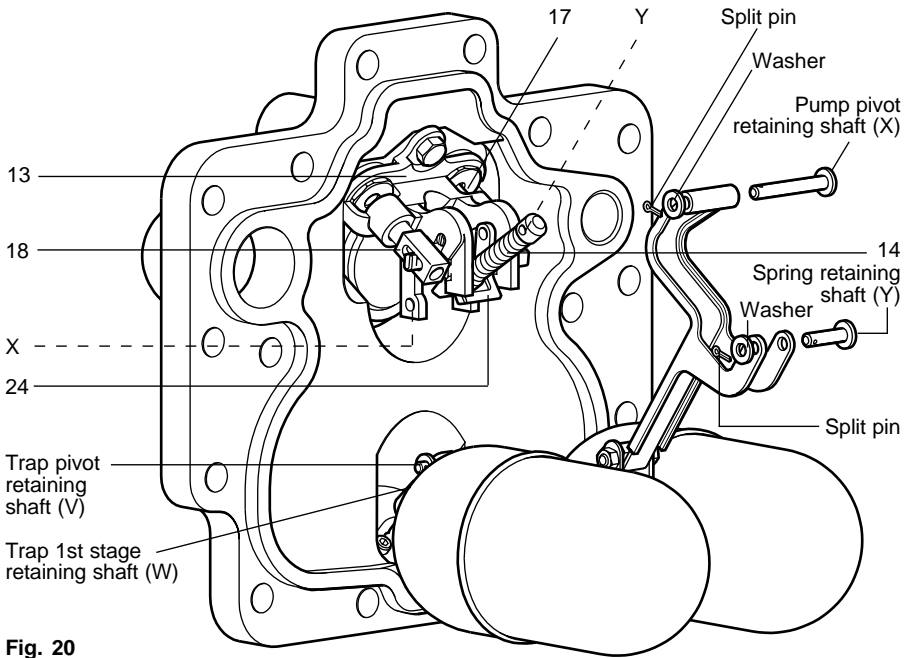
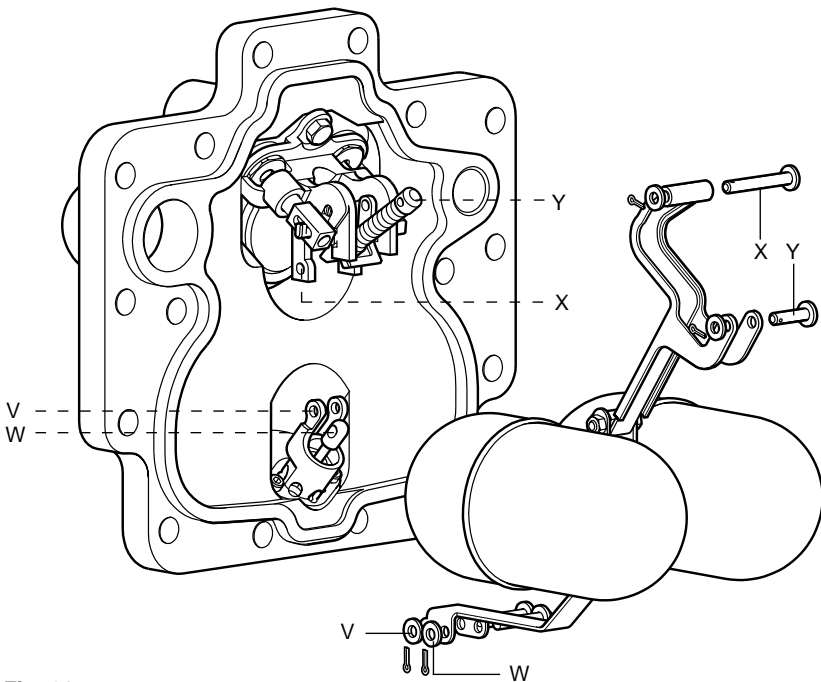

Fig. 20
Fig. 21
3. Remove a split pin and washer from one side of the spring retaining shaft (Y) (See Fig. 20).
4. Remove a split pin and washer from one side of pump pivot retaining shaft (X).
5. Carefully slide the shafts out from their respective positions observing the orientation of the spring and actuator arm (item 14, 24) within the pump bracket (item 13) as these will need to be refitted later.
6. Remove a split pin and washer from one side of the trap 1st stage valve retaining shaft (W).
7. Remove a split pin and washer from one side of the trap pivot retaining shaft (V).
10. It is easier to fit the replacement shafts in the following sequence:- (See Fig. 21).